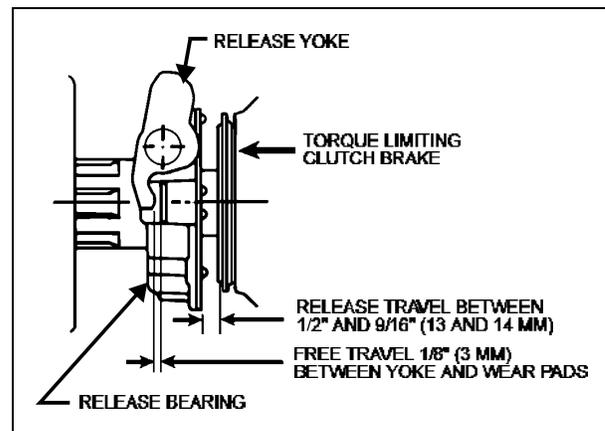

FIGURE 2: RELEASE TRAVEL AND FREE PLAY TRAVEL ADJUSTMENT MA3E0223
| FIG. 2: RELEASE TRAVEL AND FREE PLAY TRAVEL ADJUSTMENT | 02-3 |
- Measure the **release travel** (clearance between release bearing housing and clutch brake). Refer to figure 2. The clearance should be between 1/2" and 9/16" (13 and 14 mm).
1. Check **free travel** as shown in figure 2. The clearance should be 1/8" (3 mm).